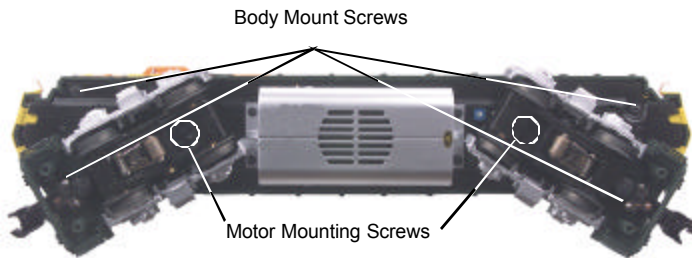

Figure 3: Body Removal Screw Locations
1. To access the gear box, remove the cab from the chassis by unscrewing the chassis screws as seen in Figure 3 and lifting the cab from the chassis.
2. Once the cab is removed, remove the trucks by unscrewing the black Phillips motor mount screw located on the underside of the drive trucks (see Fig. 3).